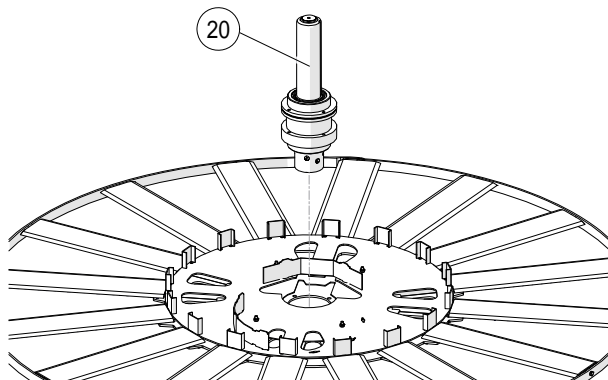

Fig. 9: Rotary Joint
- Change the rotary joint (see Fig. 9).